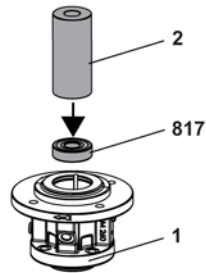
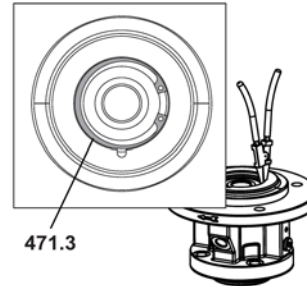

Fig. 25
Fig. 26
3. Use the ball bearing mounting sleeve **2** to press the ball bearing **817** into the flange cover **1**, see Fig. 25, and fasten using the circlip **471.3**, see Fig. 26.